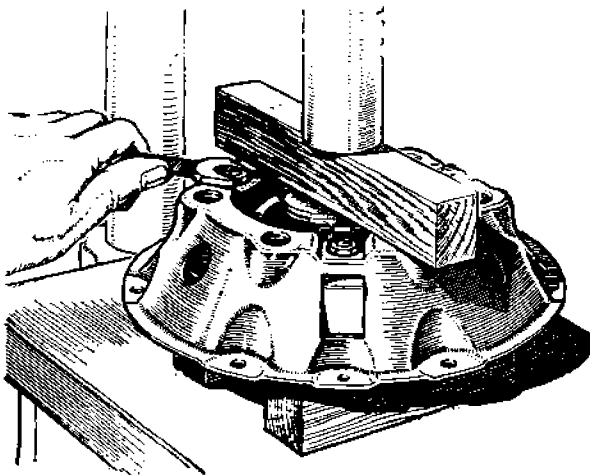

Fig. E.3.
Detach the release lever plate (10) from the retainer springs (11) and place the cover assembly under a press with the pressure plate (18) resting on blocks of such a size that the cover is free to move downwards when pressure is applied. (See Fig. E.3.)
Place the block of wood across the cover as in Fig. E.3, and compress the clutch springs by means of the press spindle, guiding the eyebolts and pressure plate lugs through the holes in the cover.